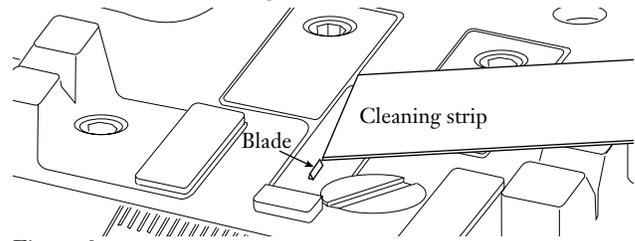

Figure 9
Open the cleaver and use the strip to clean the end faces of the blade (Figure 9).
- Use a 2.5 mm hex key to remove the screws from the blade access covers (Figure 9). Lift the covers out of the cleaver base.